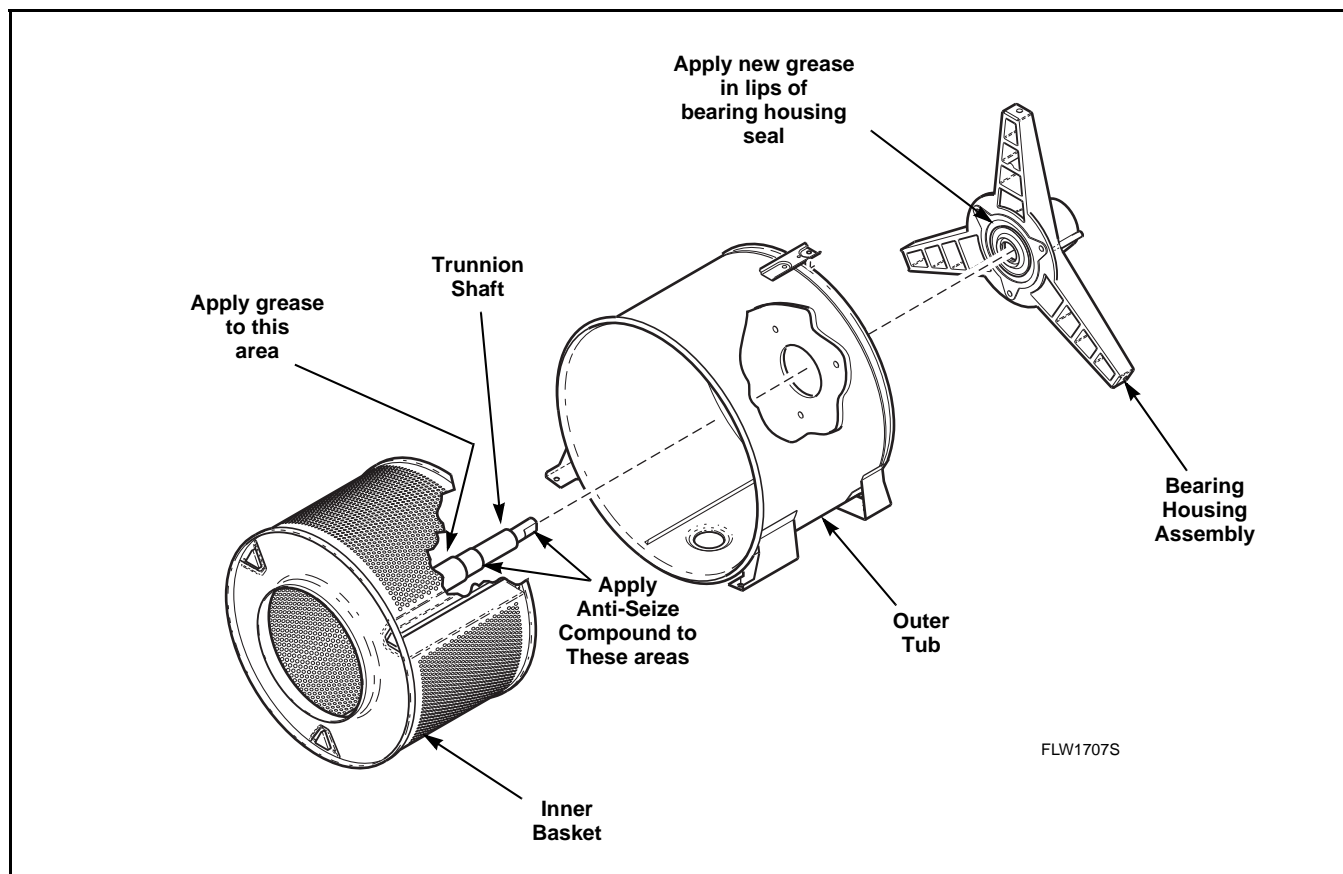

Figure 43
- Apply No. 27604P Anti-Seize Compound to the area of the trunnion shaft that will be contacting the front and rear bearings. Refer to Figure 43.
- Apply a film of grease to area of shaft that will be contacting the bearing housing seal. Refer to Figure 43. Make sure seal lips also are packed with grease. Refer to Figure 43.
- a. Apply No. 27604P Anti-Seize Compound to the area of the trunnion shaft that will be contacting the front and rear bearings. Refer to *Figure 43*.
- b. Apply a film of grease to area of shaft that will be contacting the bearing housing seal. *Figure 43*. Make sure seal lips also are packed with grease. Refer to *Figure 43*.